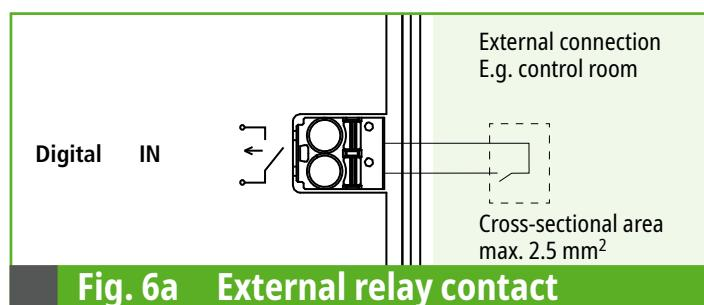

Fig. 6a External relay contact
- ➲ Not galvanically isolated and therefore a floating make contact (see Fig. 6a) must be used for activation (switching data: 9 V, 1 mA, max. 100 Ω).